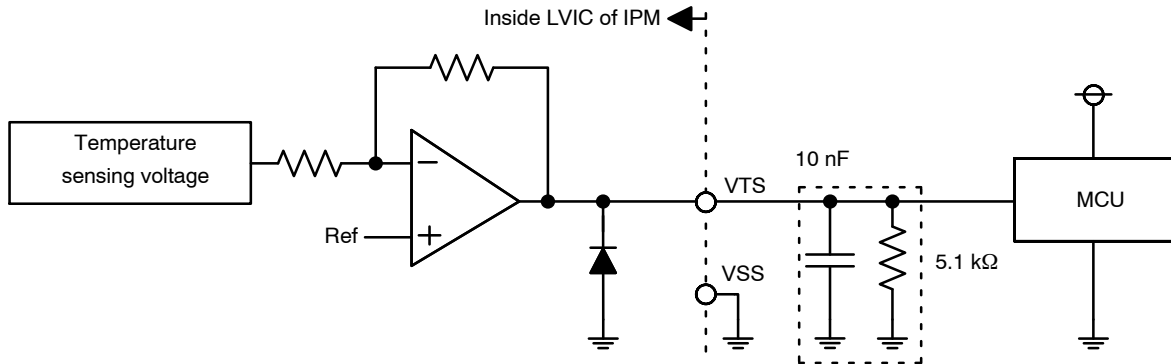

**Figure 3. Switching Time Definitions**
- ton and toff include the propagation delay of the internal drive IC. tc(on) and tc(off) are the switching times of IGBT under the given gate-driving condition internally. For the detailed information, please see *Figure 3*.